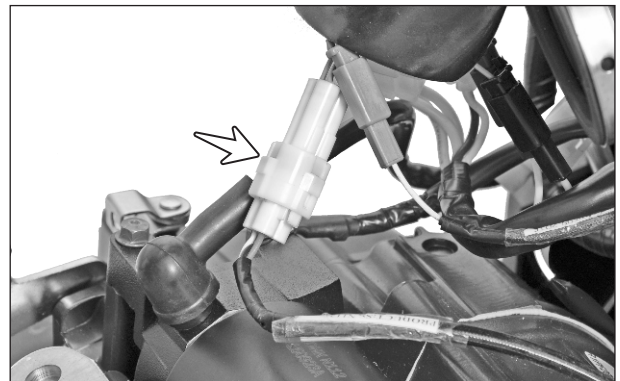

Fig. 3.105
- Disconnect the speed sensor wiring socket from the main wiring harness. (Fig. 3.105)